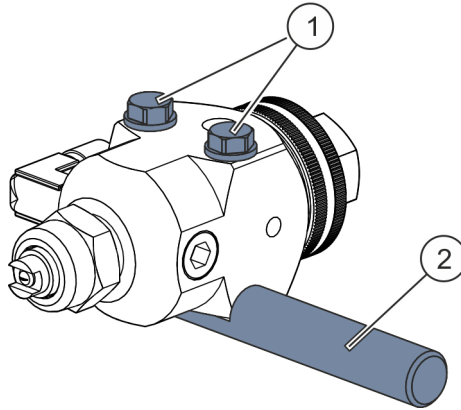

Fig. 2: Installing the automatic spray gun
1. ➤ Install and tighten retaining bolts ( Fig. 2/2) to the automatic spray gun using two screws ( Fig. 2/1).
2. ➤ Fastener retaining bolts ( Fig. 2/2) to the automatic spray gun using a suitable customer provided clamping piece, e.g. a cross, flange or joint clamping piece.